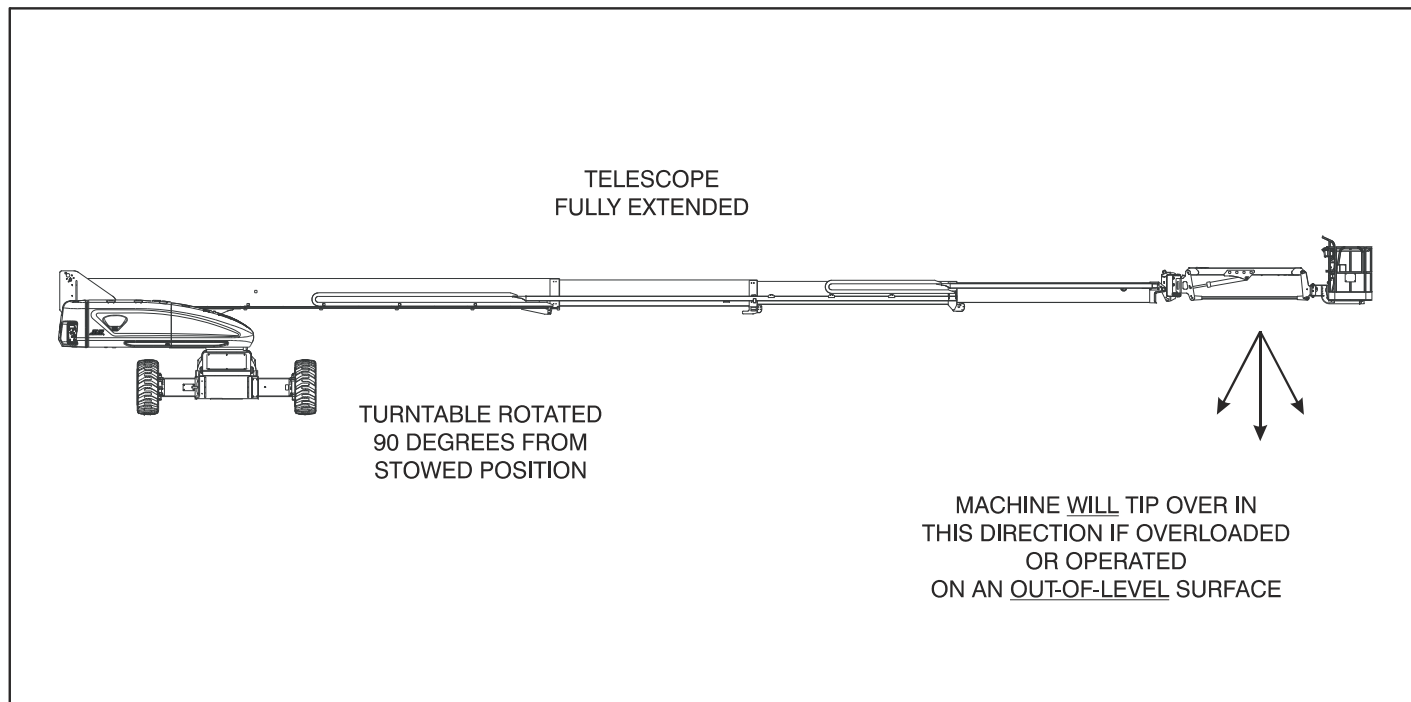

Figure 4-2. Position of Least Forward Stability
Machine stability is based on two (2) conditions which are called FORWARD and BACKWARD stability. The machine's position of least FORWARD stability is shown in (See Figure 4-2.), and its position of least BACKWARD stability is shown in (See Figure 4-3.)